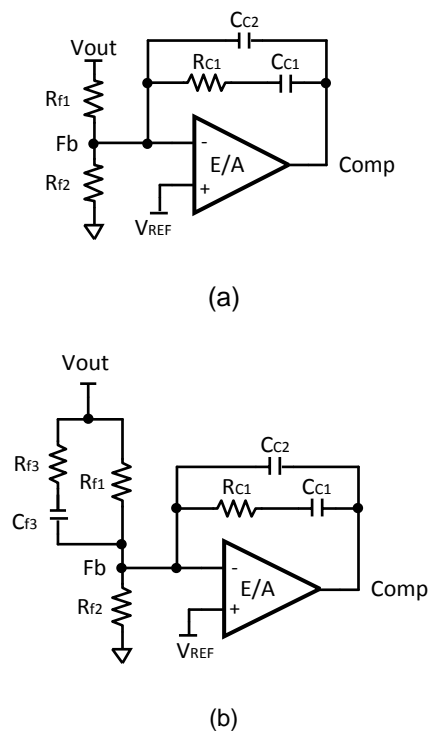

Figure 5: Loop Compensator (a) Type II, (b) Type III
Two types of compensators are commonly used: Type II (PI) and Type III (PID), as shown in Figure 5. The selection of the compensation type is dependent on the ESR of the output capacitors. Electrolytic capacitors have relatively higher ESR. If the ESR pole is located at the frequency lower than the cross-over frequency,  $F_C$ , the ESR pole will help to boost the phase margin. Thus a type II compensator can be used. For the output capacitors with lower ESR such as ceramic capacitors, type III compensation is often desired.